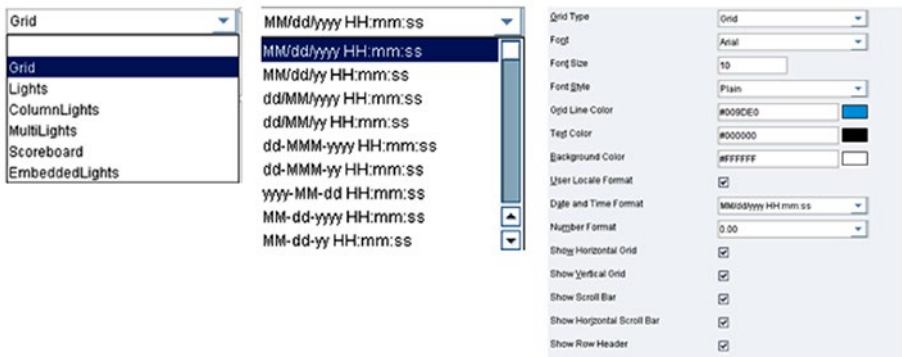

Figure 7-27. *Various configurations of i5Grid*
- *i5Grid Area:* Grid Area configuration configures the general properties of the display template. In Grid Area, grid type can be specified. See Figure 7-27.